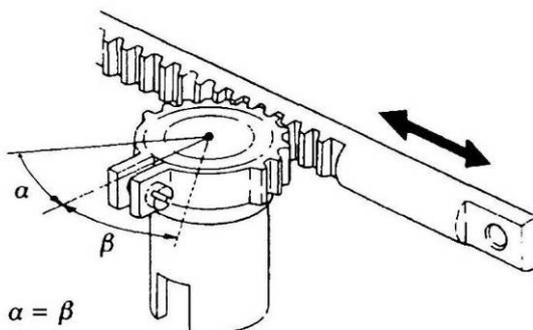

Figure 80 Control Sleeve Setting Position
- f. When all control sleeve assemblies are installed, move the control rack back and forth and ensure that the control sleeves rotate equal amounts from the centre position as the control rack is moved in both directions (Figure 80).